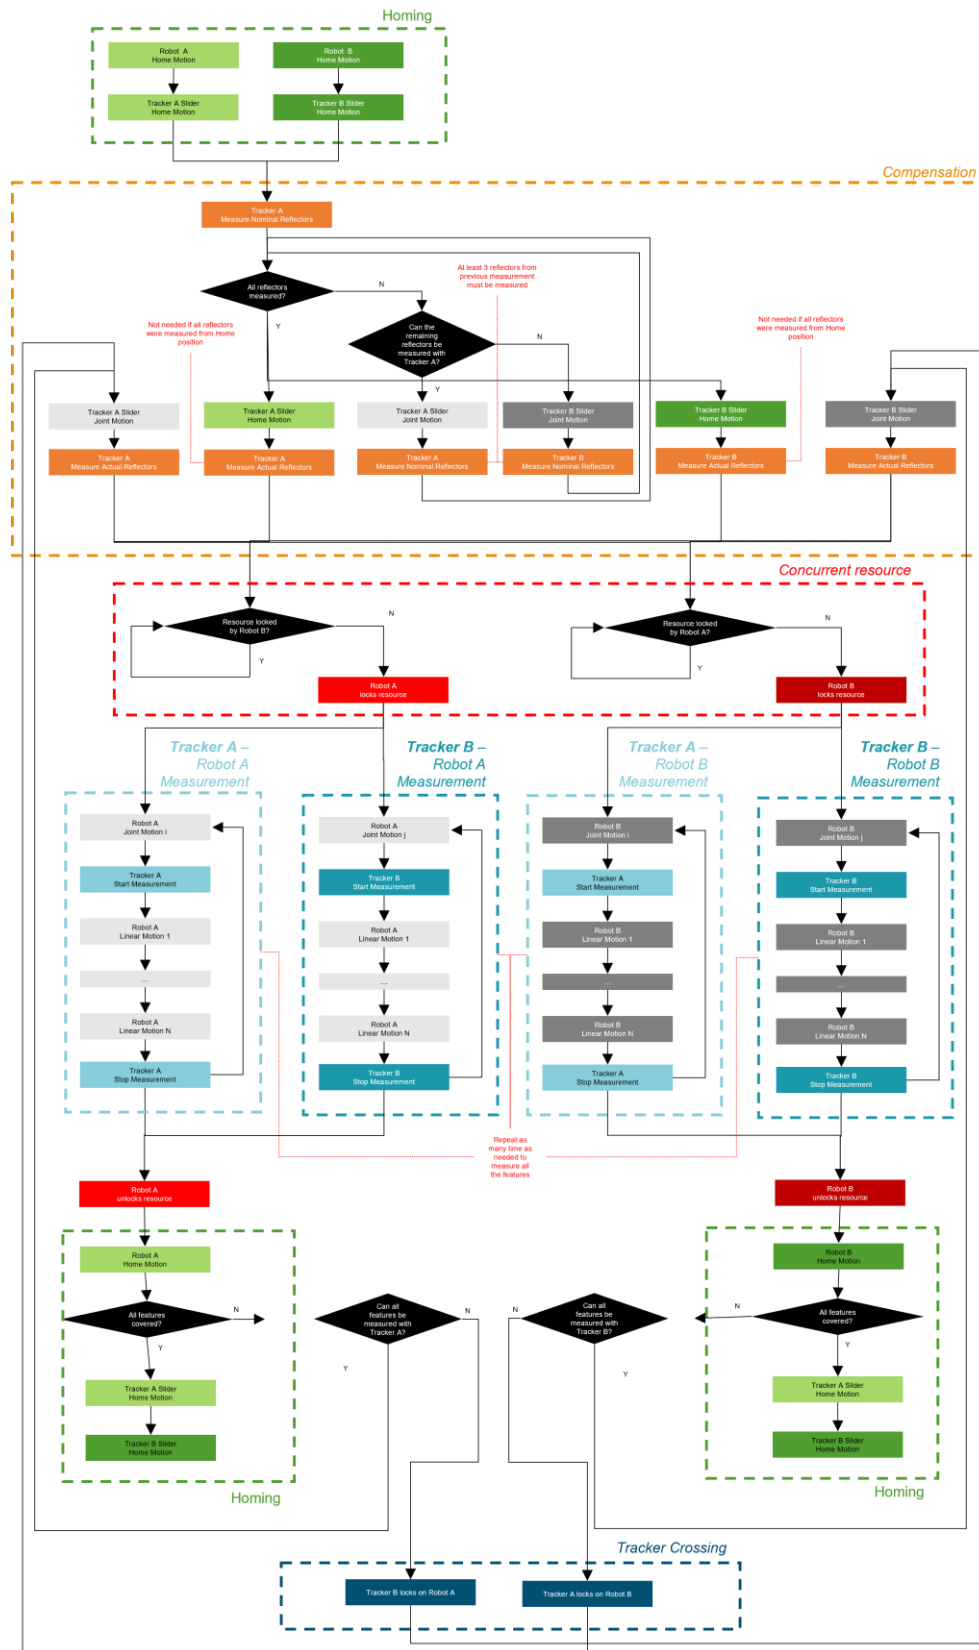

Figure 8-8: Complete dual robot cell programming workflow using two robots and two trackers
The general program workflow for a parallel execution program is described in **Figure 8-8** and contain the following main steps:
- 1) Send all robots and sliders to “Home” position (may be in parallel) as depicted in **Figure 8-7** and **Figure 8-8**.
- 4) There might be situations when both robots running in parallel are only allowed to use the same tracker (the second is unreachable). A tracker can lock only on a face of the scanner mounted on the robot. E.g. when Tracker A is locked on a face of Robot A scanner, Robot B must wait for Robot A to complete its task, before Tracker A could lock on a face of Robot B scanner. For this situation the tracker crossing functionality is needed as described in chapter 8.13.5.3. The flowchart depicted in **Figure 8-7** shows a workflow that includes only the measurement parts using Robot A together with either Tracker A or Tracker B. A workflow containing both robot measurement routines have two additional measurement branches relative to **Tracker B – Robot B** and **Tracker A – Robot B** which are exactly the same as the one described in Robot A measurement branches as depicted in **Figure 8-8**.
- 5) Whenever the measurement branches of Robot A and Robot B must inspect an interference zone, the concurrent resource usage functionality must be used as described in chapter 8.13.5.4 and depicted in **Figure 8-8**.
- 6) Send all robots and sliders to “Home” position (may be in parallel) as depicted in **Figure 8-7** and **Figure 8-8**.